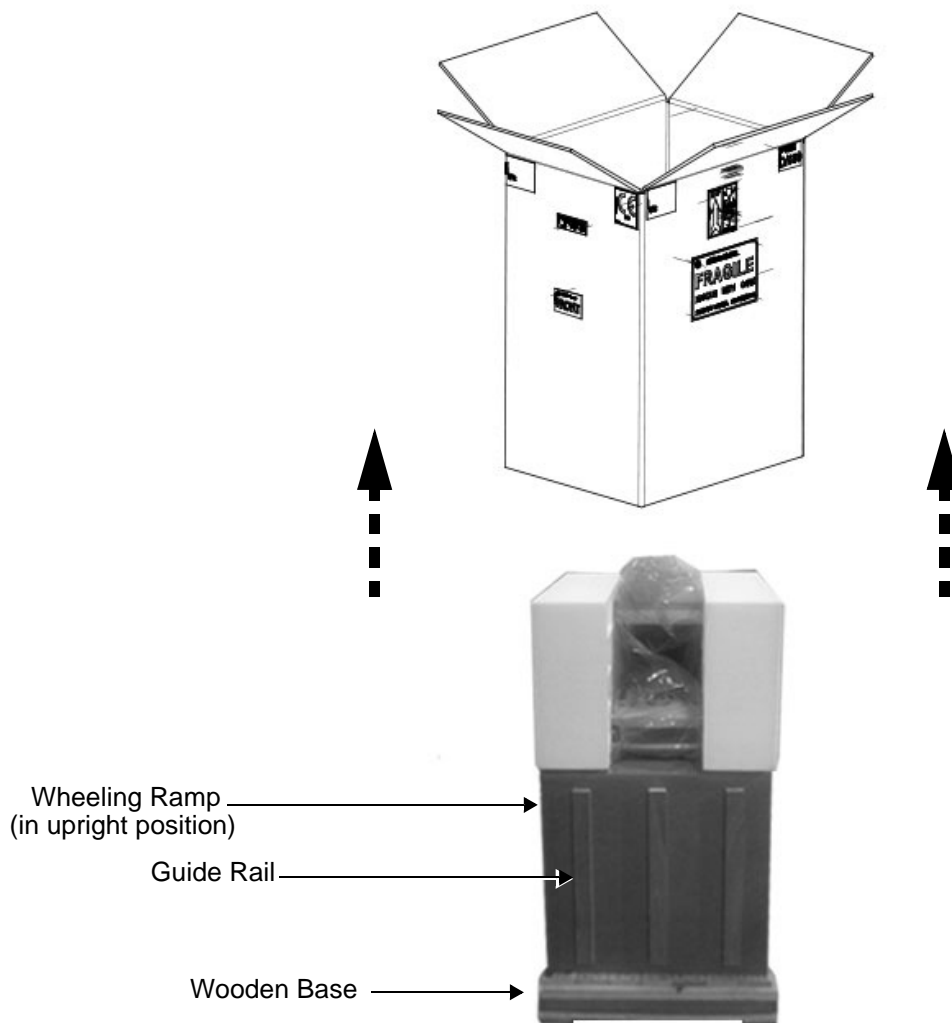

Figure 3-12 Wheeling Ramp in Upright Position
- 3.) Remove the outer cardboard walls pulling them gently *upwards* and away from the system (Figure 3-12).